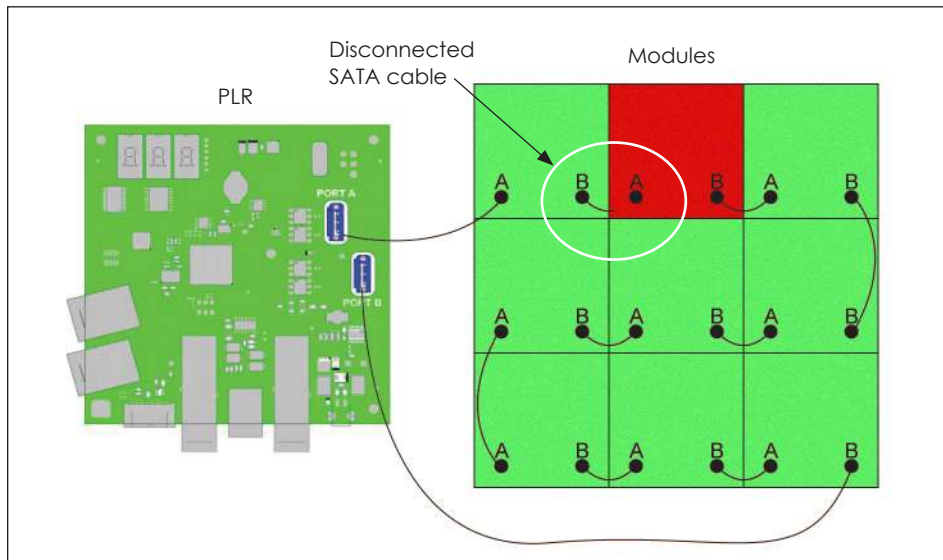

Figure 77: ProLink 5 Failure from Port A
- **Module - Port A Health** - This tests the ProLink 5 connections via SATA Port A on the modules. If the SATA cable coming from Port A on a module is disconnected, the modules that do not have a connection to Port A turn red. If the module has proper connection and communication via Port A, the modules turn green. Refer to **Figure 77**.